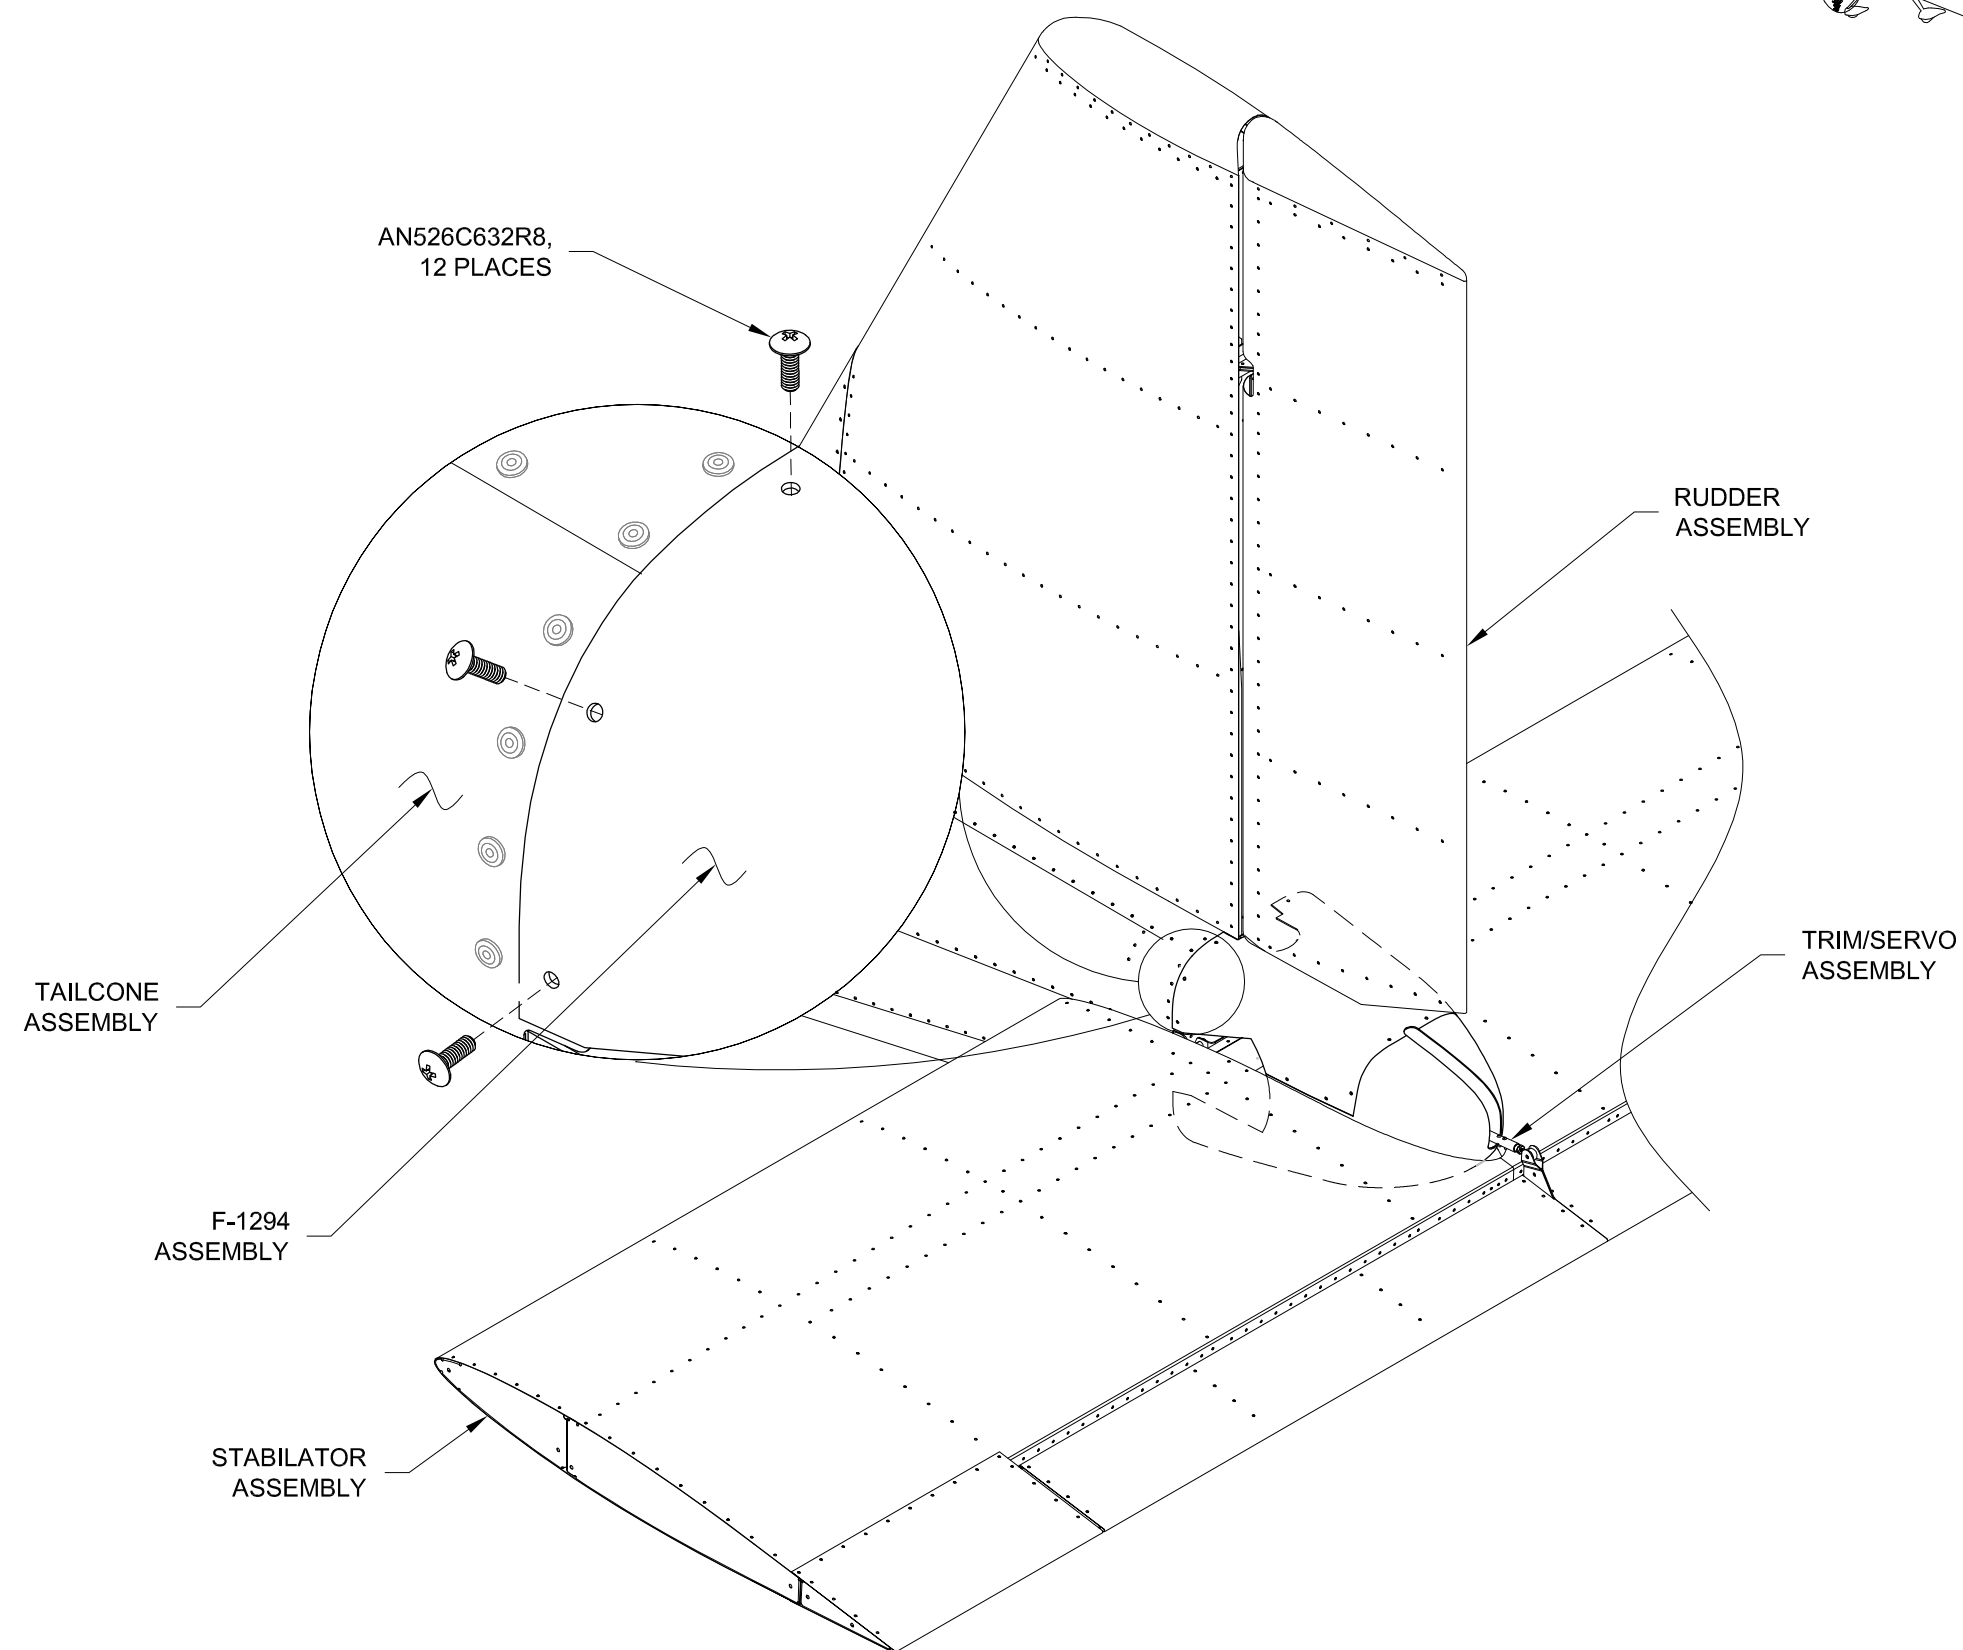

FIGURE 1:
Step 1: Install the F-1294A & B-1 to the Tailcone Assembly using screws called out in Figure 1.